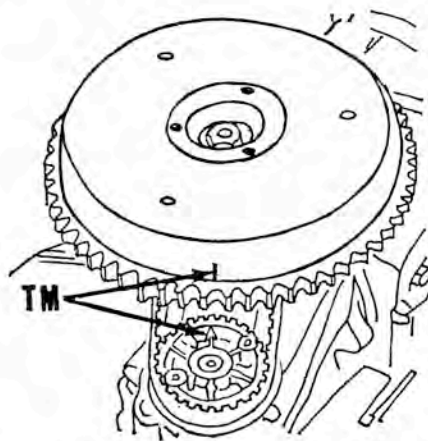
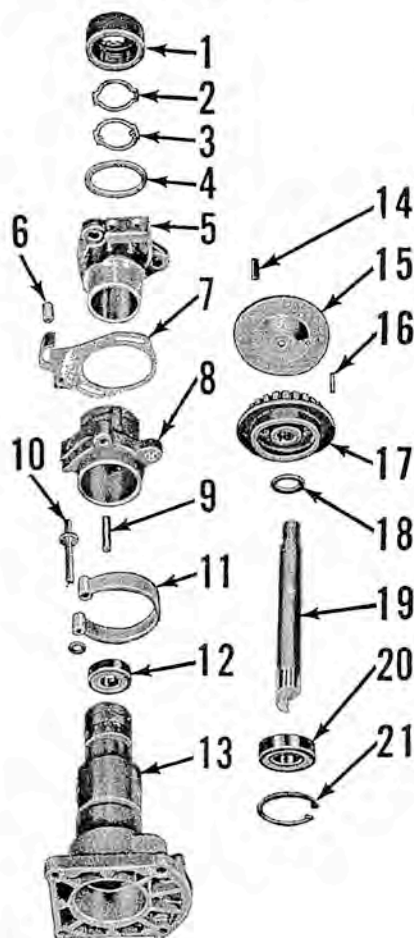

Fig. M91—When timing the magneto or distributor; or installing a new timing drive belt, timing marks (TM) must be aligned as shown.
Fig. M92—Exploded view of distributor mounting bracket and drive mechanism used on some models. Others, including magnetos, are similar.
To install the magneto drive belt, remove the flange plate on top of magneto pulley; then remove the flywheel using a puller. Turn the magneto pulley until the arrow cast into top of pulley points toward crankshaft as shown in Fig. M91. When installation is complete, flywheel and magneto timing marks must be toward each other and on the axis of a line connecting the crankshaft and magneto shaft as shown at (TM). The magneto shaft has a blind spline which aligns with a similar spline in magneto pulley shaft.
Fig. M93—To install and time the distributor on direct reversing models, turn the drive tang until the offset end of tang faces forward as shown at (A). On gearshift models, cut-out notch should be facing forward as shown in view (B). Align pulley timing marks as shown in Fig. M91.
To install the distributor drive belt, remove the distributor pulley flange plate (15—Fig. M92); then remove the flywheel using a puller. Turn the distributor pulley until the arrow cast into top of pulley points toward crankshaft as shown in Fig. M91. Install drive belt and flywheel with timing marks aligned as shown at (TM).